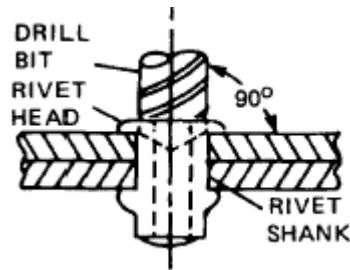

Figure 4-51. Installed Rivet.
5. Drill through center of rivet just deep enough to sever rivet head from shank (Fig. 4-51).